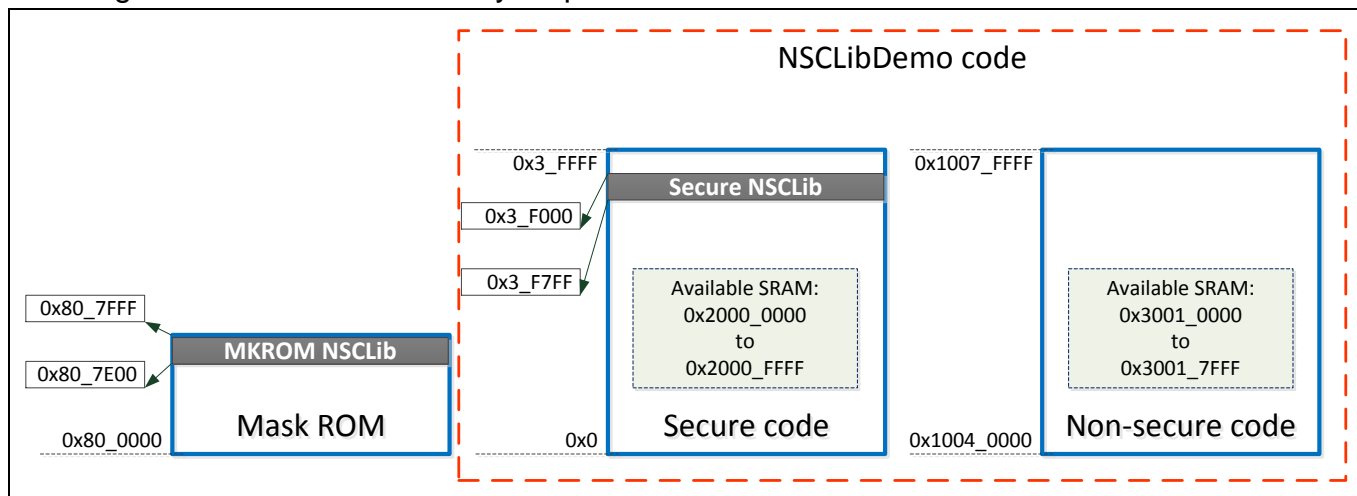

Figure 3-3 Memory Map of NSCLibDemo
- Figure 3-3 shows the memory map of NSCLibDemo code.